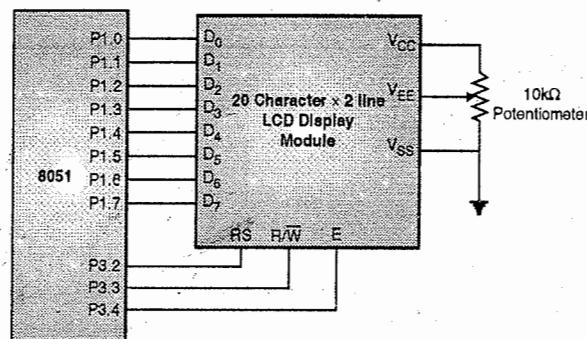

Fig. 2.7.3 : Interfacing 20 character  $\times$  2 line LCD module with 8051
- Fig. 2.7.3 shows the interfacing of a 20 character  $\times$  2 line LCD module with 8051. As shown in Fig. 2.7.3 the data lines are connected to Port 1 of 8051. The control lines RS, R/W are driven by Port 3 pins P3.2, P3.3 and P3.4. The voltage at VEE pin is adjusted by potentiometer to adjust the contrast of the LCD.